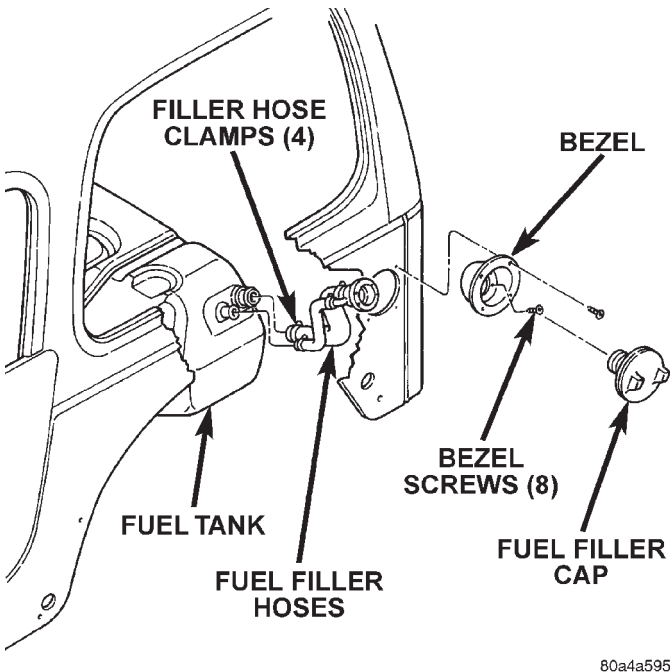
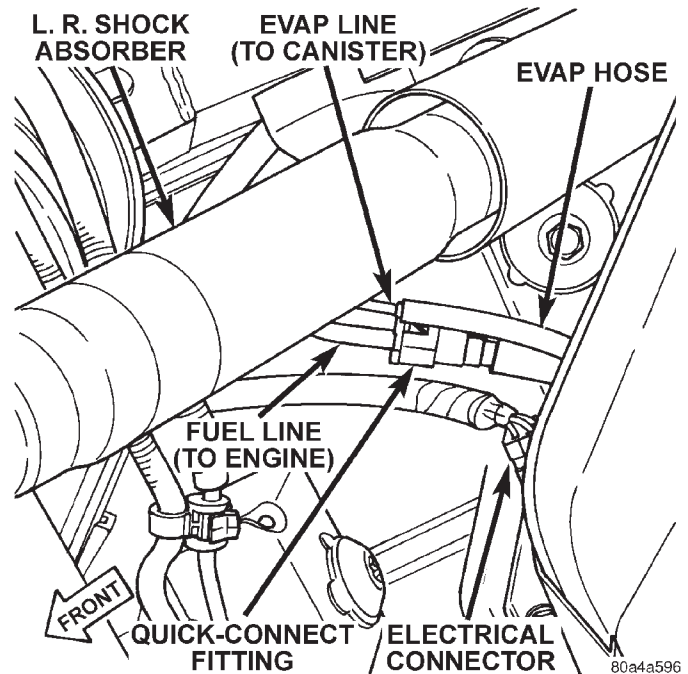
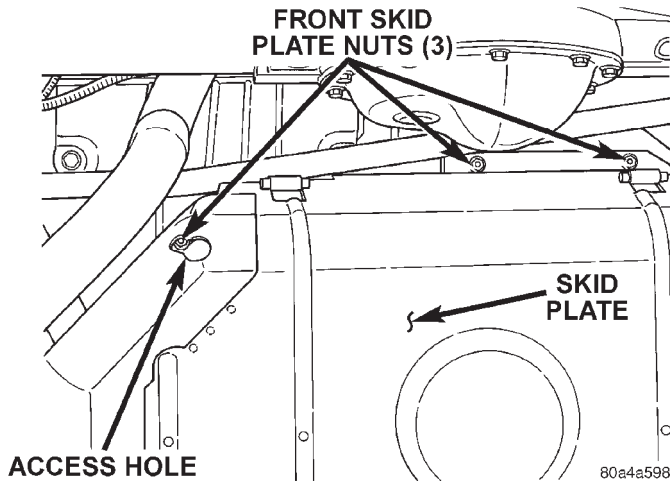

Fig. 34 Fuel Filler Hoses/Fuel Fill Cap
Fig. 35 Fuel Tank Connections
Fig. 37 Fuel Tank Mounting Nuts—Front
(1) Remove fuel filler cap.
(2) Perform the Fuel System Pressure Release Procedure as described elsewhere in this group.
(3) Disconnect negative battery cable.
(4) Remove 8 screws retaining plastic fuel filler bezel to body (Fig. 34). Remove fuel filler bezel.
(5) To prevent contaminants from entering tank, temporarily install fuel cap to fill hoses.
(6) Cut plastic tie wrap securing rear axle vent hose to fuel filler hoses.
(7) Disconnect electrical connector at front of fuel tank (Fig. 35).
(8) Disconnect EVAP hose from EVAP line at front of fuel tank (Fig. 35).
(9) Disconnect quick-connect fitting from fuel line at front of fuel tank (Fig. 35). Refer to Quick-Connect Fittings in this group for procedures.
(10) The fuel tank and skid plate are removed as an assembly. Centrally position a transmission jack (or equivalent lifting device) under skid plate/fuel tank assembly. Secure tank assembly to jack.
(11) Remove three skid plate-to-body nuts at front of tank (Fig. 37). Remove one of the nuts through access hole on skid plate (Fig. 37).